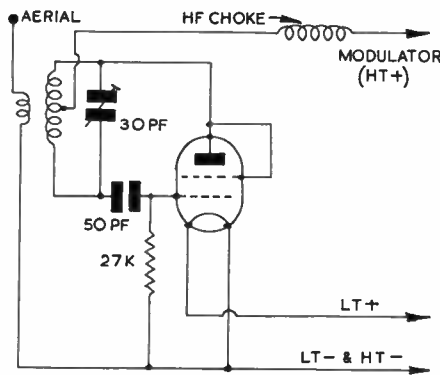

Fig. 2—Circuit for 1-valve C.W. transmitter
The actual transmitter is exactly the same as described for CW control. A crystal controlled transmitter was described in the 12th Feb. 1964 issue, and a 2-valve tuned transmitter in the 23rd Oct. 1963 issue. Either of these can be used with the modulator in Fig. 1. Fig. 2 is a circuit of a suitable CW transmitter, which may be used with the modulator.
Both valves are run from the same LT and HT supply. The 3V4, wired as in Fig. 1, requires 1½V for its filament (LT) and a further 3V4, or similar valve, can be used in Fig. 2. For high tension, about 90V is convenient. A lower voltage can be provided for short range. For long range, 120V can be supplied.